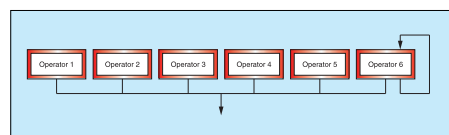

Figure 11: 6-operator FM: algorithm 32 from a Yamaha DX7.
► the simplest examples is the 6-operator algorithm in Figure 11 (see page 82). This is often called the 'organ' on a DX7 because the outputs from each of the operators are summed together, with no FM taking place whatsoever.